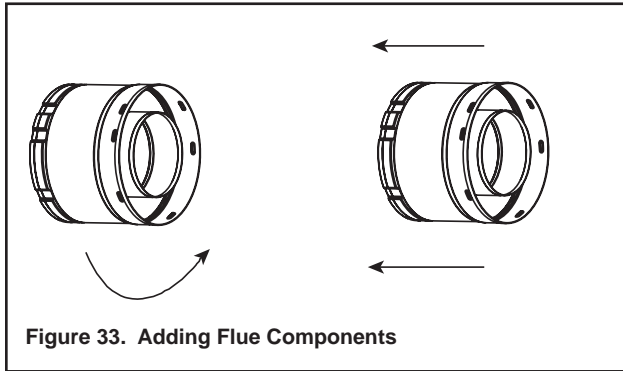

Figure 33. Adding Flue Components
Once both inner and outer flues are started, press section A onto section B firmly until all lances have snapped into place. Check to make sure they have snapped together (see Figure 32) and the seams are not aligned (see Figure 33). Tug slightly on section A to confirm it has completely locked into place.
- Align the seam of the pipe and seam of the collar to allow engagement. Rotate the flue to lock into place. Use this procedure for all the components. See Figure 33.